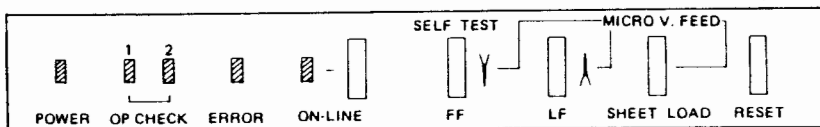

Figure 1-5 Operator's Panel
- 12) Operator's panel - used by the operator for manual control of the printer. The panel is shown in Figure 1-5 and explained in Section 2.